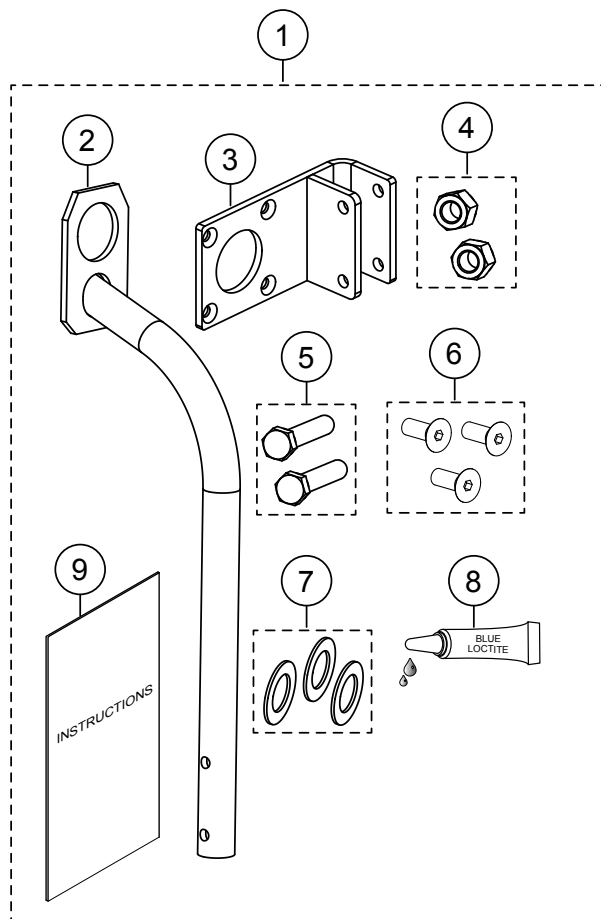

Figure 1. Lifting Bale Mounting Kit
Verify that all parts are accounted for. See Figure 1 and Table 1.
1. Using a ratchet, ratchet extension, and 7/16" socket, remove the two 1/4-20 X 5/8" screws and 1/4" lock washers (Figure 1) from the belt guard.